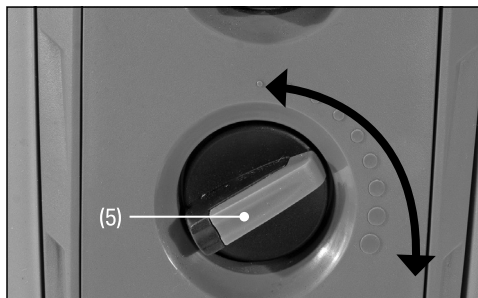

Fig. 14
7.3 Detergent Control (Fig.14) (98679 only)